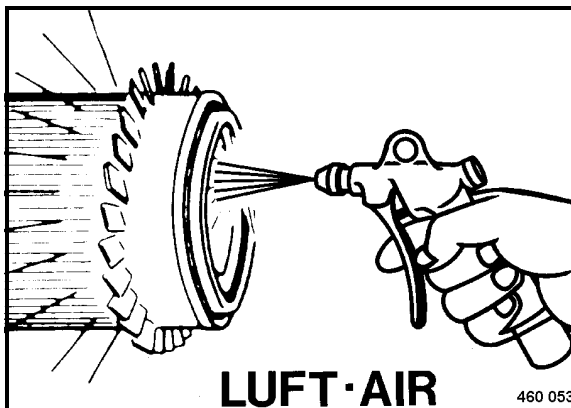

Fig. 124
- Blow the air filter cartridge (Fig. 124) out with clean and dry compressed air (max. 2 bar (30 psi)) by blowing along the inner creases.